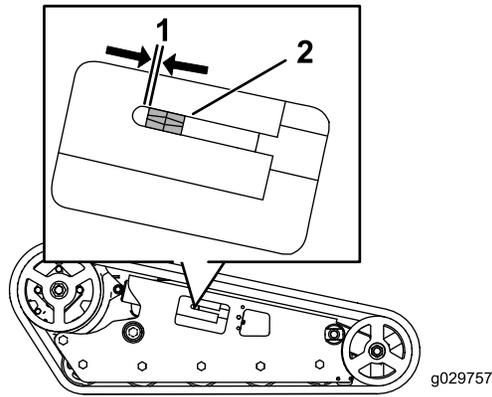

Figure 54
The tension nut should be 0.64 cm (1/4 inch) away from the tangent of the tension tube slot (Figure 54). If it is not, adjust the track tension using the following procedure:
4. Using a 1/2 inch drive socket, turn the tensioning screw counter-clockwise until the distance between the tension nut and the back of the tension tube is 0.64 cm (1/4 inch), as shown in Figure 54
10. Turn the tensioning screw counter-clockwise until the distance between the tension nut and the back of the fork tube (Figure 54) is 0.64 cm (1/4 inch).
10. Turn the tensioning screw counter-clockwise until the distance between the tension nut and the tangent of the tension-tube slot (Figure 54) is 0.65 cm (1/4 inch).